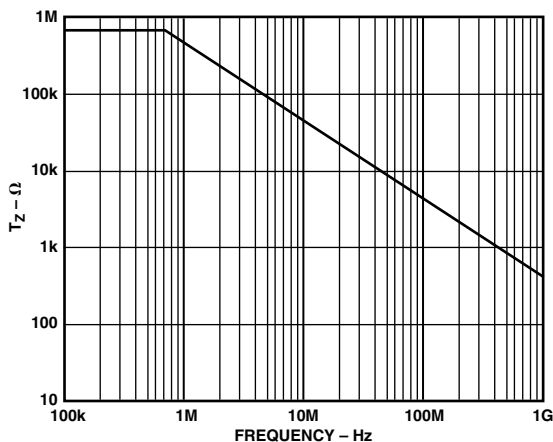

Figure 5. Transimpedance vs. Frequency
Recognizing that $G \times R_{IN} \ll R1$ for low gains, it can be seen to the first order that bandwidth for this amplifier is independent of gain (G). This simple analysis in conjunction with Figure 5 can, in fact, predict the behavior of the AD8001 over a wide range of conditions.